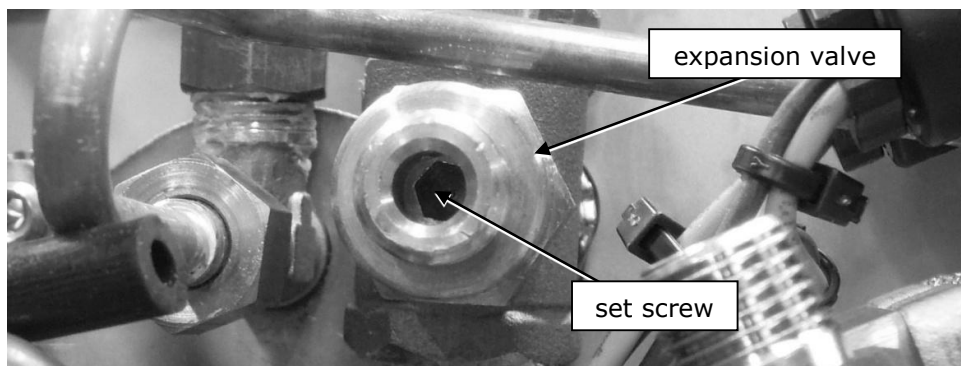

Figure 17. Showing detail of expansion valve and hexagonal opening in set screw. Drain hose is removed from valve.
6. If opening pressure is lower than 12 Bar, use a 5 mm Allen key to turn the set screw inside the expansion valve clockwise (see figure 17).